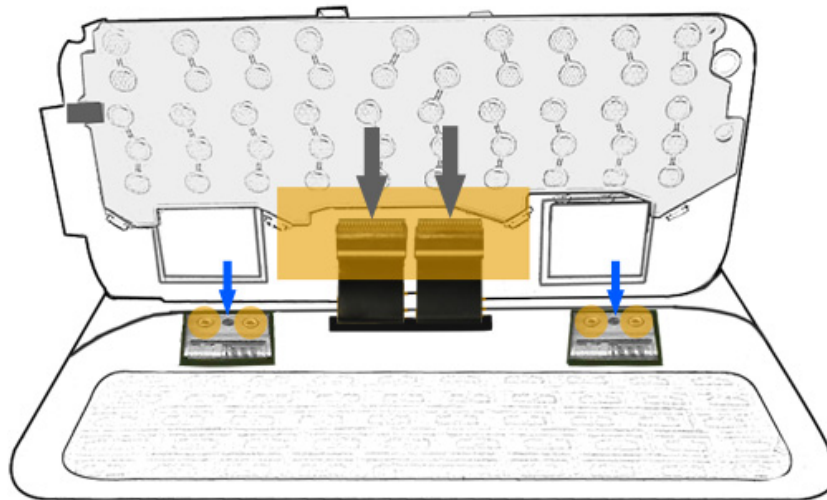

Figure 3
- Use safe open pry tool to separate the motherboard from the keyboard underneath and then flip open the motherboard from the side as shown in the figure 3.
- Remove the tape that covers the two connectors on the motherboard at the location highlighted in figure 3.
- Disconnect both the connectors on the motherboard using the safe open pry tool. The locations of these connectors are indicated by gray arrows in figure 3. The motherboard will be free to remove now. Remove it from the unit and put it aside.
- You will now need to unscrew four screws at the locations highlighted in figure 3 by small orange circles. Remove these screws using small Phillips screwdriver but first you will have to remove a sponge like material from the screws with the help of tweezers.
- After removing the screws remove two metal shields using tweezers from both hinges (at the locations from where you have just removed the Phillips screws). And then move both hinges up to make these tilt so that these can run through the gaps on the keyboard when the keyboard is lifted off. The blue arrows in figure 3 indicate the locations to move up the hinges.